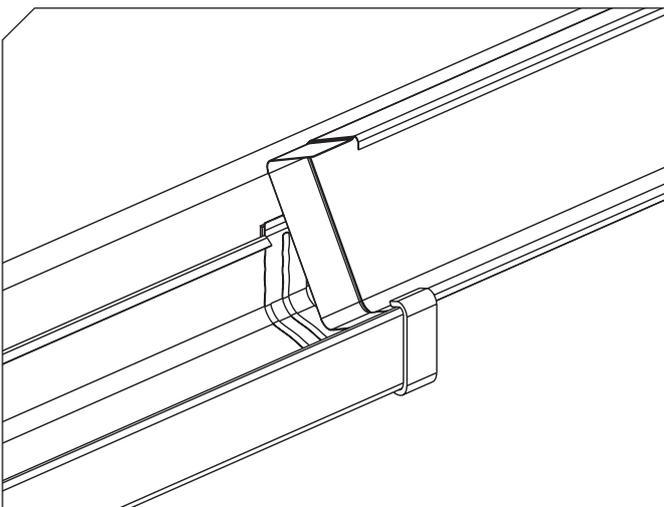

Figure 9
- 3.4. Insert the second section of the gutter into the gutter installed on the brackets by placing its stamped tip first in the front and then in the rear gutter drip. (**Figure 9, 10**)